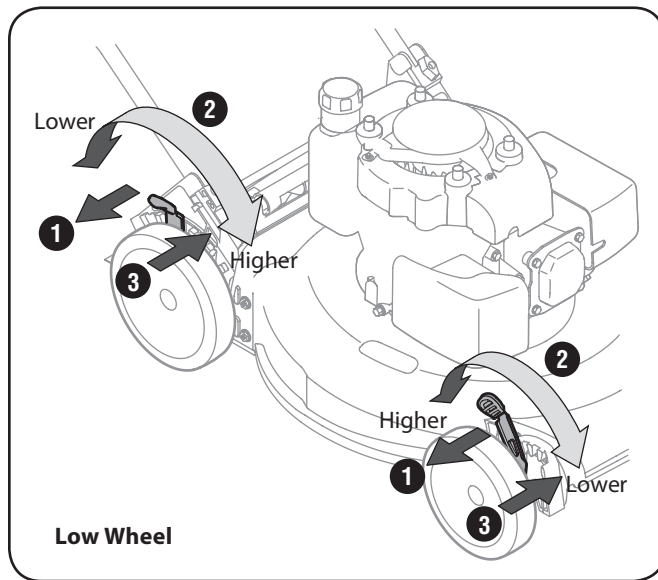
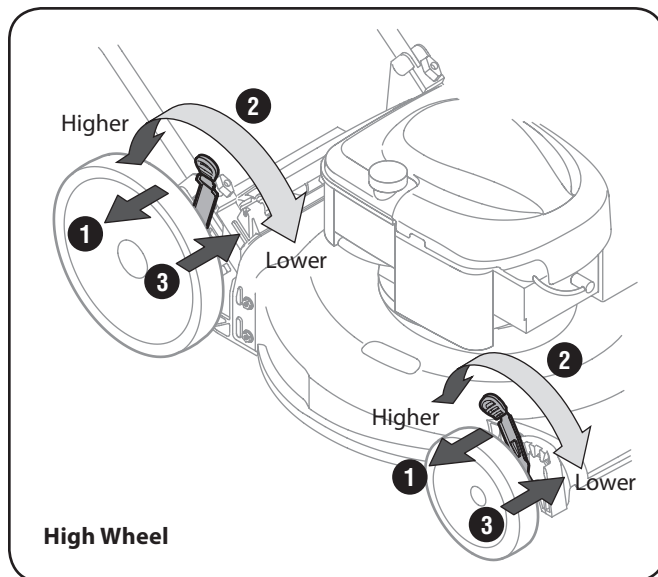

Figure 3-11
Figure 3-12
2. Move lever to desired position for a change in cutting height. See Figure 3-11 and Figure 3-12.